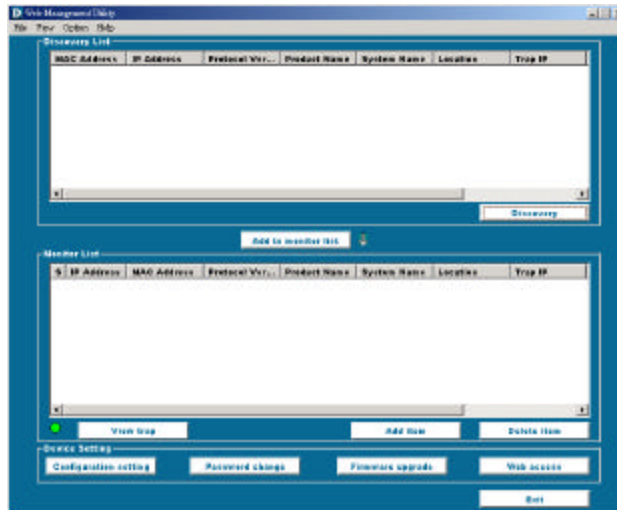

Figure 1. Web Management Utility
5. Upon completion, go to **Program Files -> web_management_utility** and execute the Web Management utility. (Figure 1.)